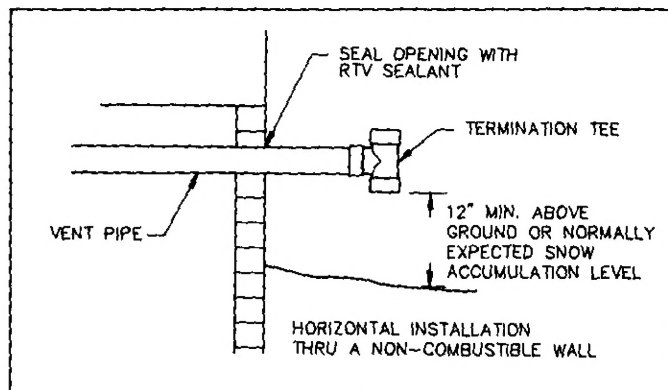

Figure 4
- a. When penetrating a non-combustible wall, make the hole just large enough for vent pipe. Use approved sealant material to seal vent pipe to the non-combustible wall. See Figure 4.